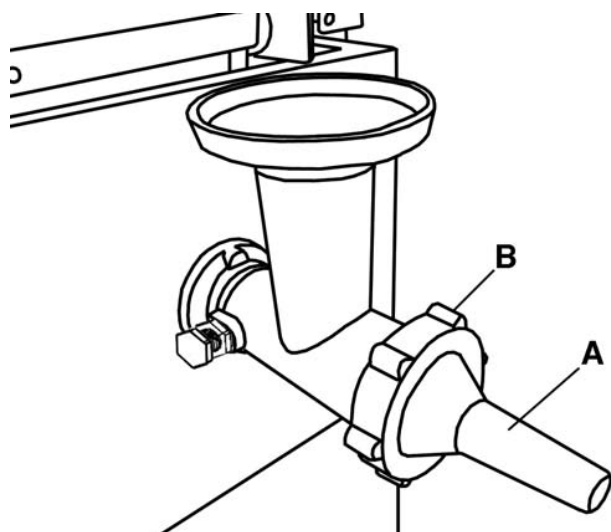
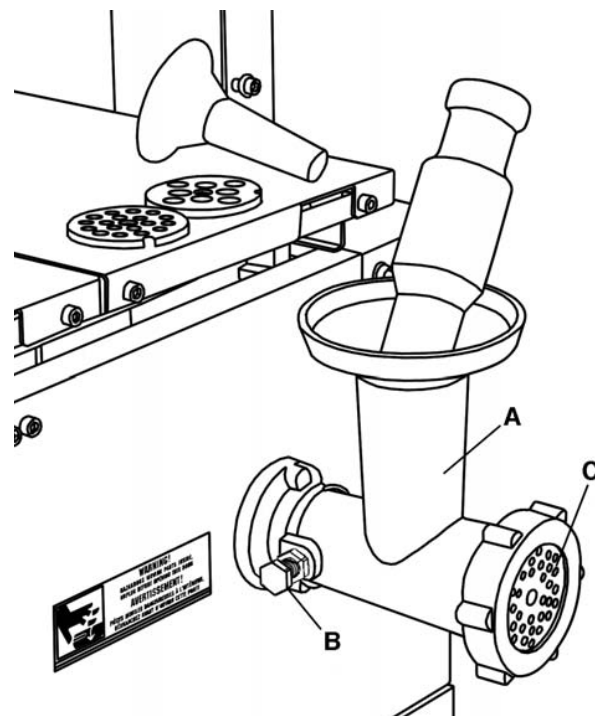

FIGURE 14A
FIGURE 14B
Position the meat grinder (A) Fig.14B onto the meat grinder hub and secure it in place with the lock bolt and nut (B).
This meat grinder comes with a sausage filler (A) Fig.14A, to install the sausage filler, undo the meat grinder collar (B), and position the sausage filler between the round knife (C) Fig.14B and the collar, reposition and tighten the meat grinder collar.